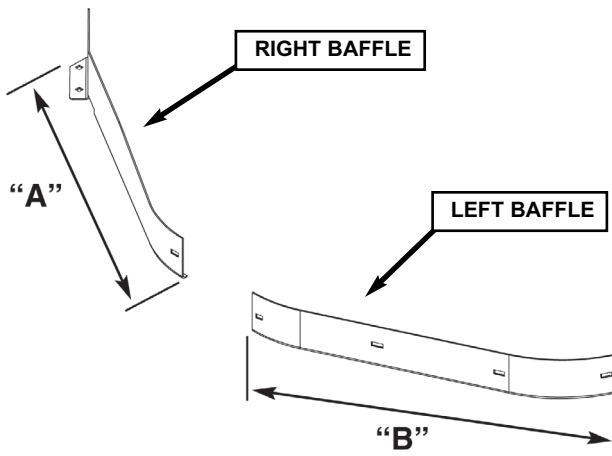

FIGURE 2
a. Measure the baffles to determine which are needed. See Figure 2.